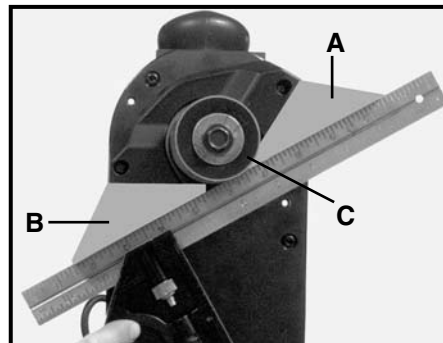

Fig. 6
Once the edge guide is in place, the feed guides (A) and (B) Fig. 6 will need to be adjusted so that they are parallel to the sanding drum. Loosen the in-feed and out-feed guides, (A) and (B), with a $\frac{3}{16}$ " allen wrench. Place a straight edge on the sanding drum (C) and tap the in-feed and out-feed guides (A) and (B), until the feed guides and the sanding drum (C) are resting on the straight edge Fig. 6, and are parallel to each other. Tighten the $\frac{3}{16}$ " bolt to hold the out-feed guide (B) in place. The in-feed guide (A) should be set to the amount of material that the operator wants to remove.